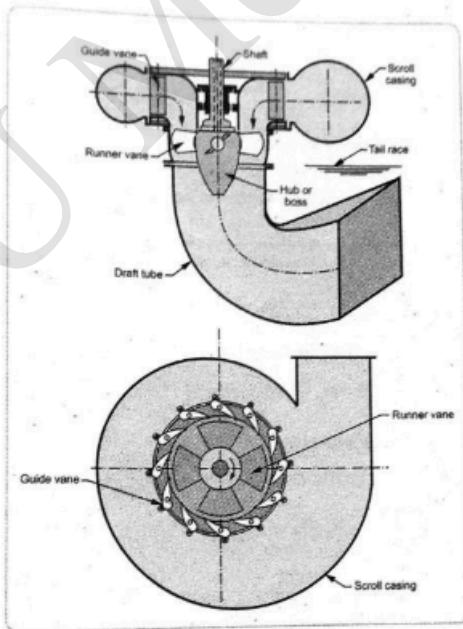

Fig. 3.30 : Kaplan turbine
- Fig. 3.30 shows the arrangement of Kaplan turbine. (See Fig. 3.30 on next page)